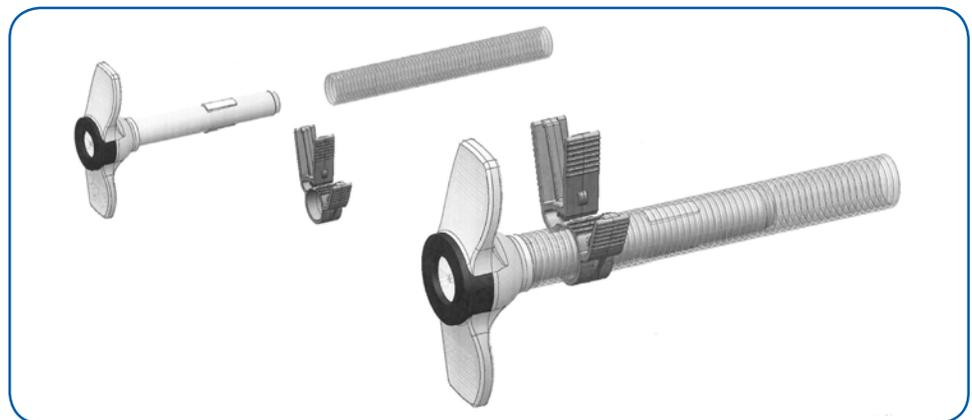
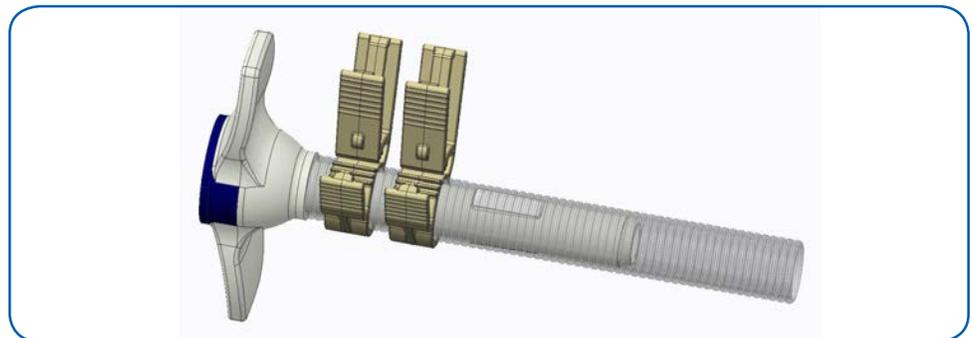

Figure 5.26 *Introducer, Graft Lock, and Hemashield Platinum Graft (Graft Not Supplied)*
Figure 5.27 *Correct Positioning If Second Graft Lock Required*
4. Insert the introducer into the graft and secure it with one (1) provided graft lock. To place the graft lock, open it and place it between the retainers and the hub on the introducer to prevent the introducer from sliding out of the graft (see Figure 5.26). NOTE: If a graft other than the Hemashield Platinum is used, 2 graft locks may be required to maintain hemostasis between the graft and the introducer. Correct positioning of the second graft is illustrated in Figure 5.27).